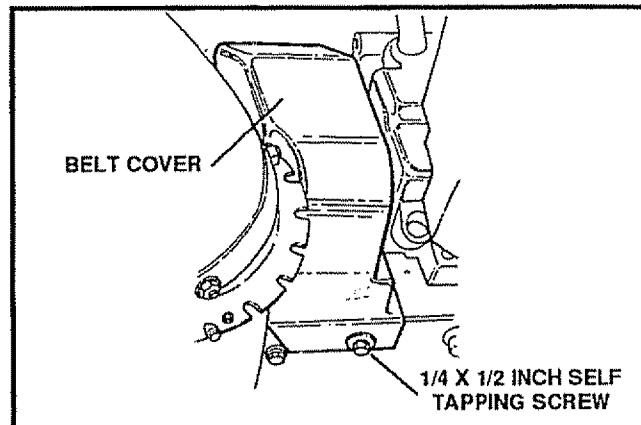

FIG. 26
- Remove the belt cover (See Fig. 26)